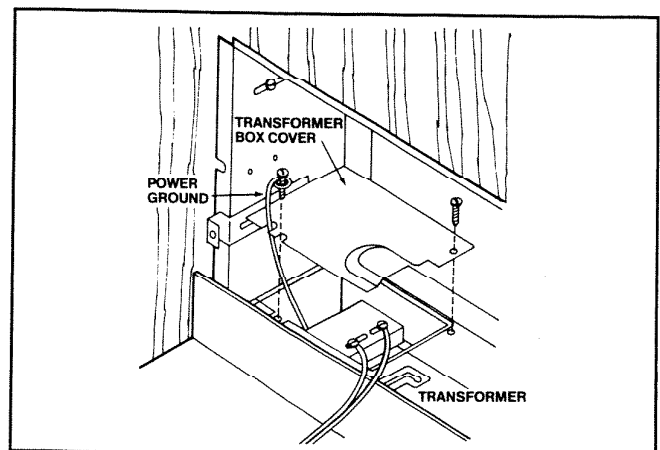

FIGURE 20
2. Connect two low voltage wires (red and white) to the transformer's terminal screws. See Figure 20.
3. Dress wires through raised section of transformer box cover and secure box cover with two screws. See Figure 20.